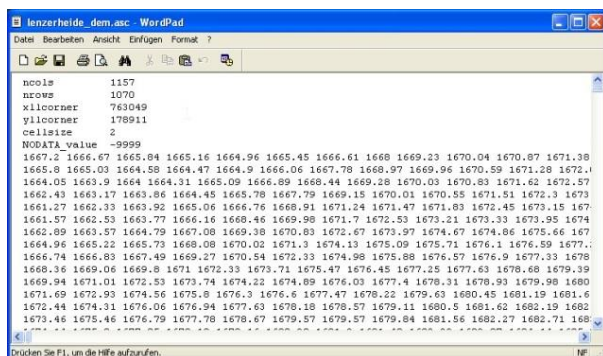

Figure 3.1 : Example ESRI ASCII grid.
1. ESRI ASCII grid (Figure 3.1)
The first two data types are also available e.g. from www.swisstopo.ch. ASCII X, Y, Z data can be converted within RAMMS into an ESRI ASCII grid. Beware, that the XYZ-data must be regular! The header of an ESRI ASCII grid must contain the information shown below in Figure 3.1.